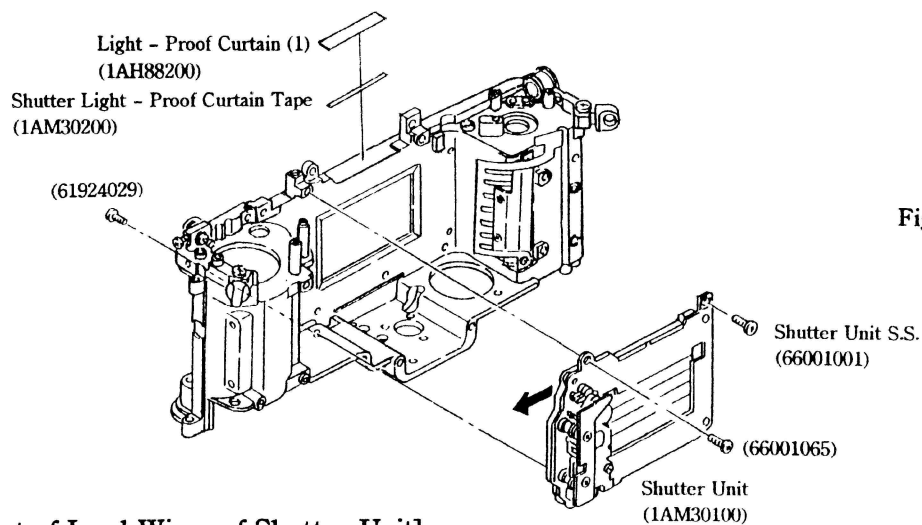

Fig.25
- 1) Peel off the Light - Proof Curtain (1) (1AH88200).
b) The Light - Proof Curtain (1) is attached to the Body with the Shutter Light - Proof Curtain Tape (1AM30200).
c) When installing the Shutter Unit, push the Shutter Unit in the direction of the arrow as shown in Fig. 25 and tighten the Shutter Unit Setscrews.